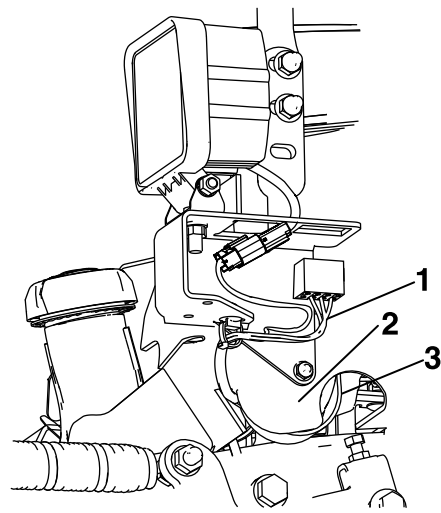

Figure 4
9. Route the LH side of the harness up under the motion control bracket and over the frame tube. Make sure the harness is routed under the return to neutral spring as shown in Figure 4.